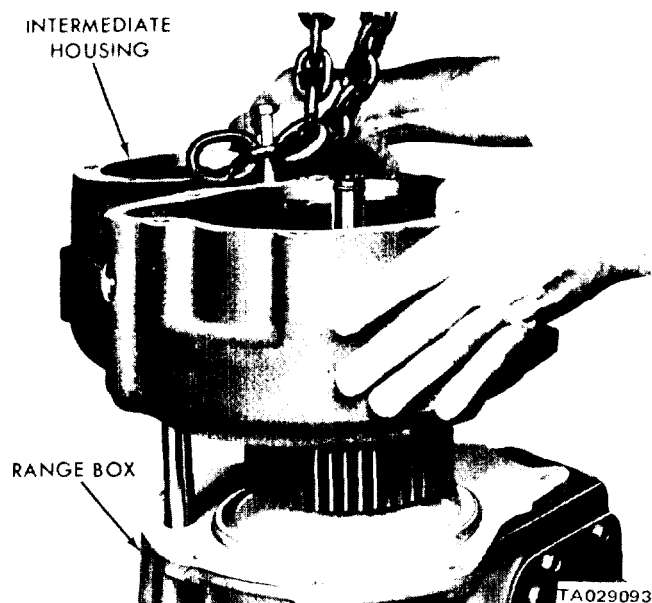

Figure 17-8. Removing Intermediate Housing.
(14) Remove the bolts attaching the intermediate chain housing to the range box. Using a chain hoist, remove the intermediate housing from the range box (figure 17-8).
(15) Remove the chain from the intermediate housing.
(16) Remove the lockout clutch, drive gear, and input shaft assembly from the range box. A 1-1/2 to 2 inch band-type hose clamp may be used to retain the 123 roller bearings on the input shaft.
(17) Pull up the shift rail and disconnect it from the link.
(18) Lift the input shaft assembly from the range box. See paragraph 17-2 below for further disassembly procedures.